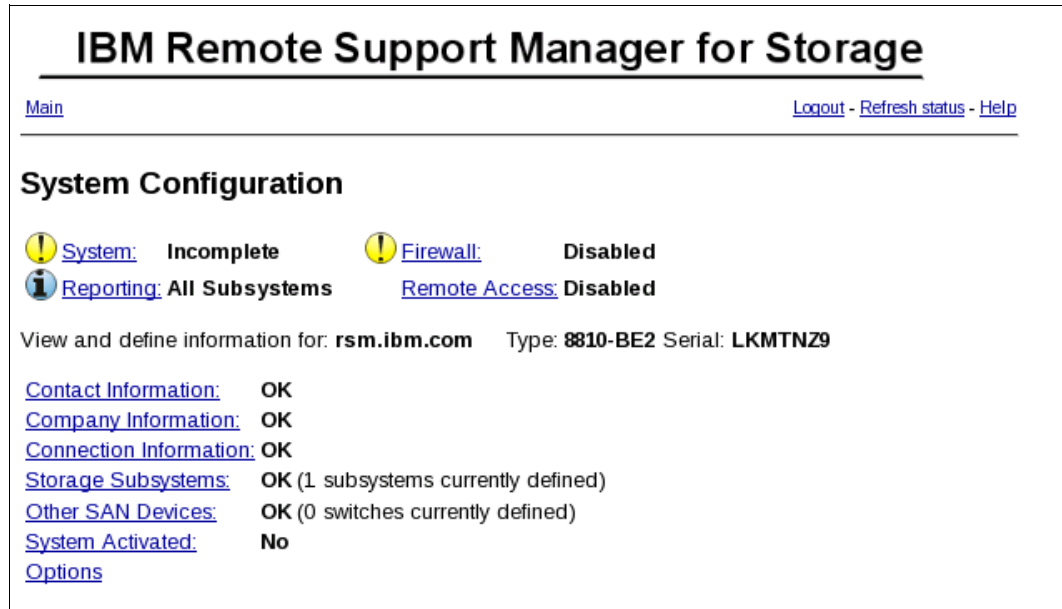

Figure 16-22 RSM Add other SAN Devices
18. Now we want to add other SAN Devices. Click the **Other SAN Devices** button as seen in Figure 16-22 on page 501.